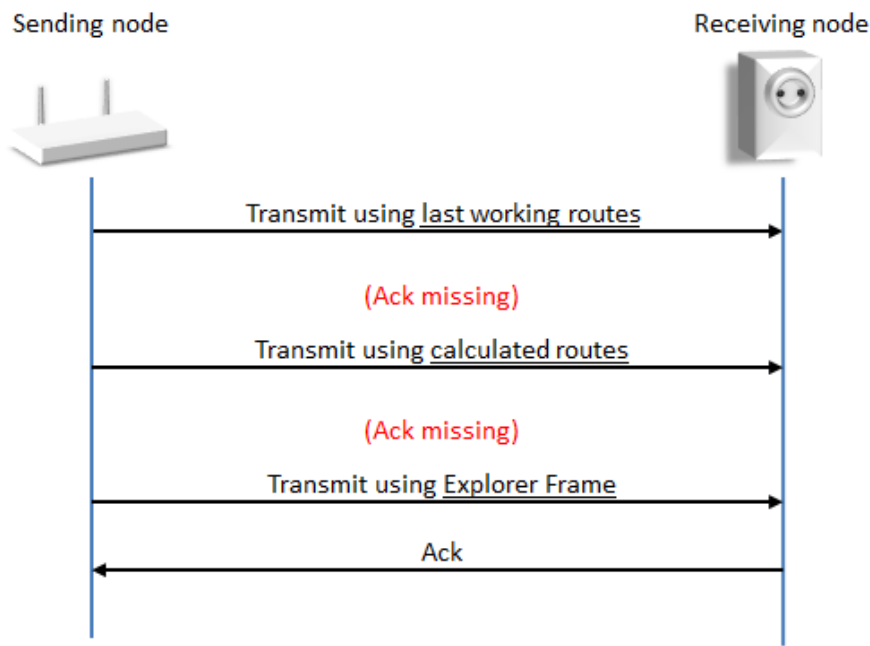
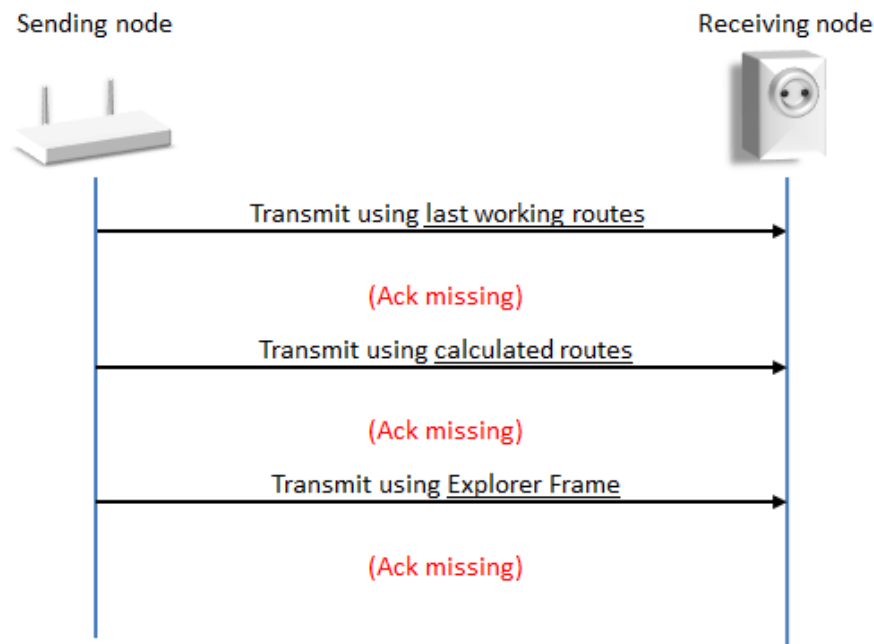

Figure 8.10: Successful transmission using Explorer Frame
Figure 8.11: Unsuccessful transmission
Illustrations are given in Figure 8.10 and Figure 8.11.
- A node **MUST** perform 3 routing attempts based on last working routes and/or calculated routes before sending an Explorer Frame. As outlined in Figure 8.10, controllers may calculate routes using the local neighbor map.
- The steps in Figure 8.11 involve at least three routing attempts. When all routing attempts are unsuccessful, it is very unlikely that any other transmission attempt to the same target will succeed. The sending node **SHOULD** give up the frame transmission.